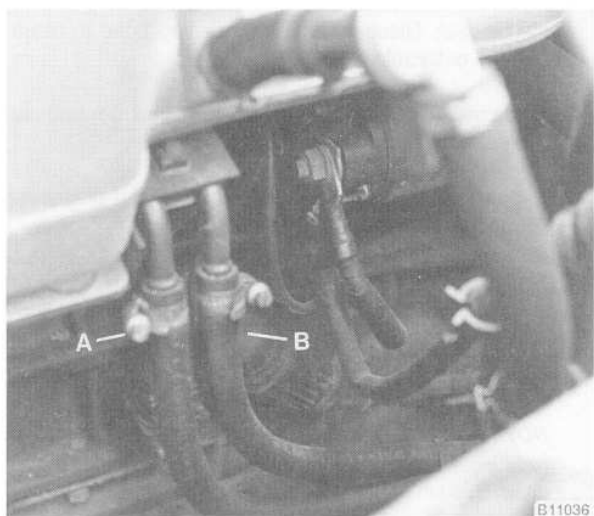

Fig. 28. Fuel return line (A) and fuel supply line (B).
19. Label and then remove the fuel supply line and the fuel return line. See Fig. 28.